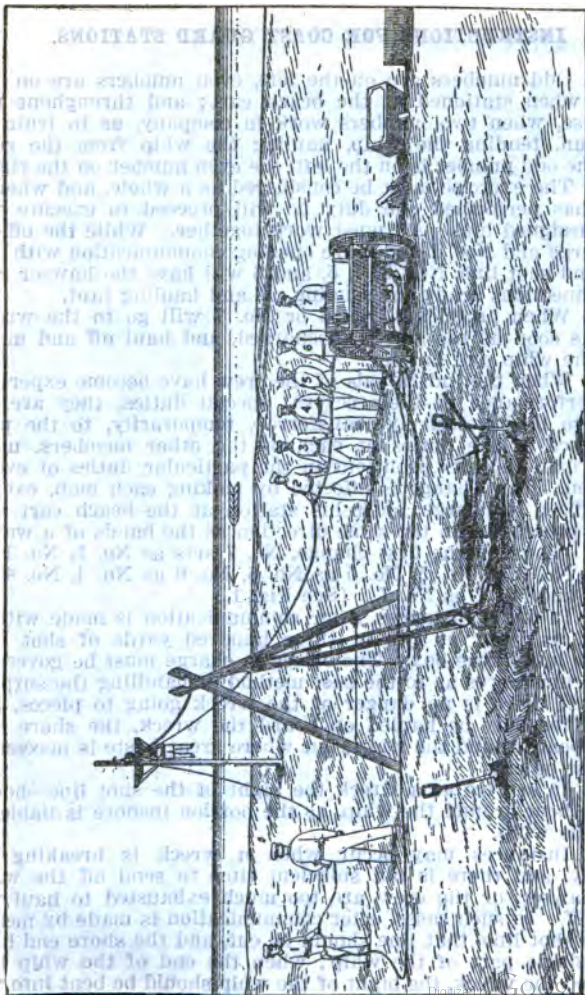

FIG. 14.—Man weather whip—haul ashore.
382. (1) Man weather whip—Haul ashore.—Nos. 3, 4, 5, 6, and 7 shift to the weather part of the whip and haul ashore, the officer in charge superintending and assisting when necessary. (See fig. 14.)
(2) The officer in charge and No. 7 assist the rescued persons out of the buoy when they reach the shore.